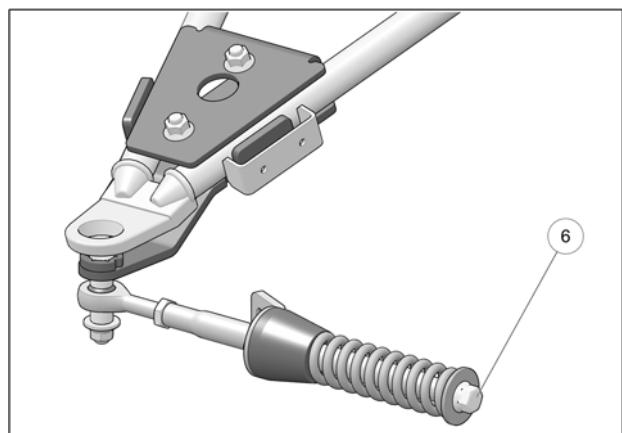

Fig. 20
9. Verify that spring assembly bolt (**6**) is tightened to the recommended torque specification: 75 N·m [55 lb·ft]. Refer to Fig. 20
9. Verifier que le boulon du ressort (**6**) est serré au couple recommandé : 75 N·m [55 lb·pi]. Fig. 20